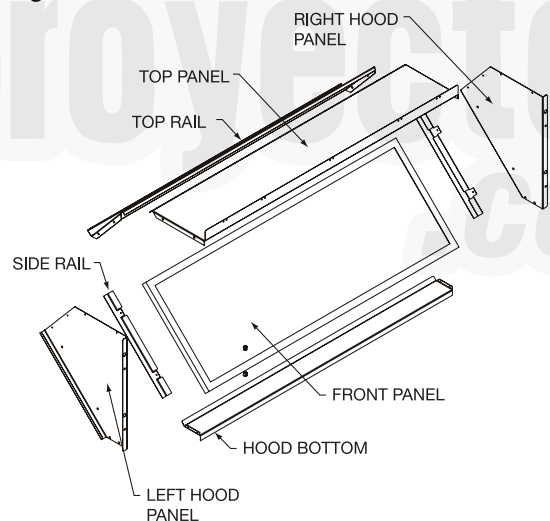

Fig. 20 — Assemble Outside Air Hood
5. To assemble the outside air hood, the following will be needed. See Fig. 20.